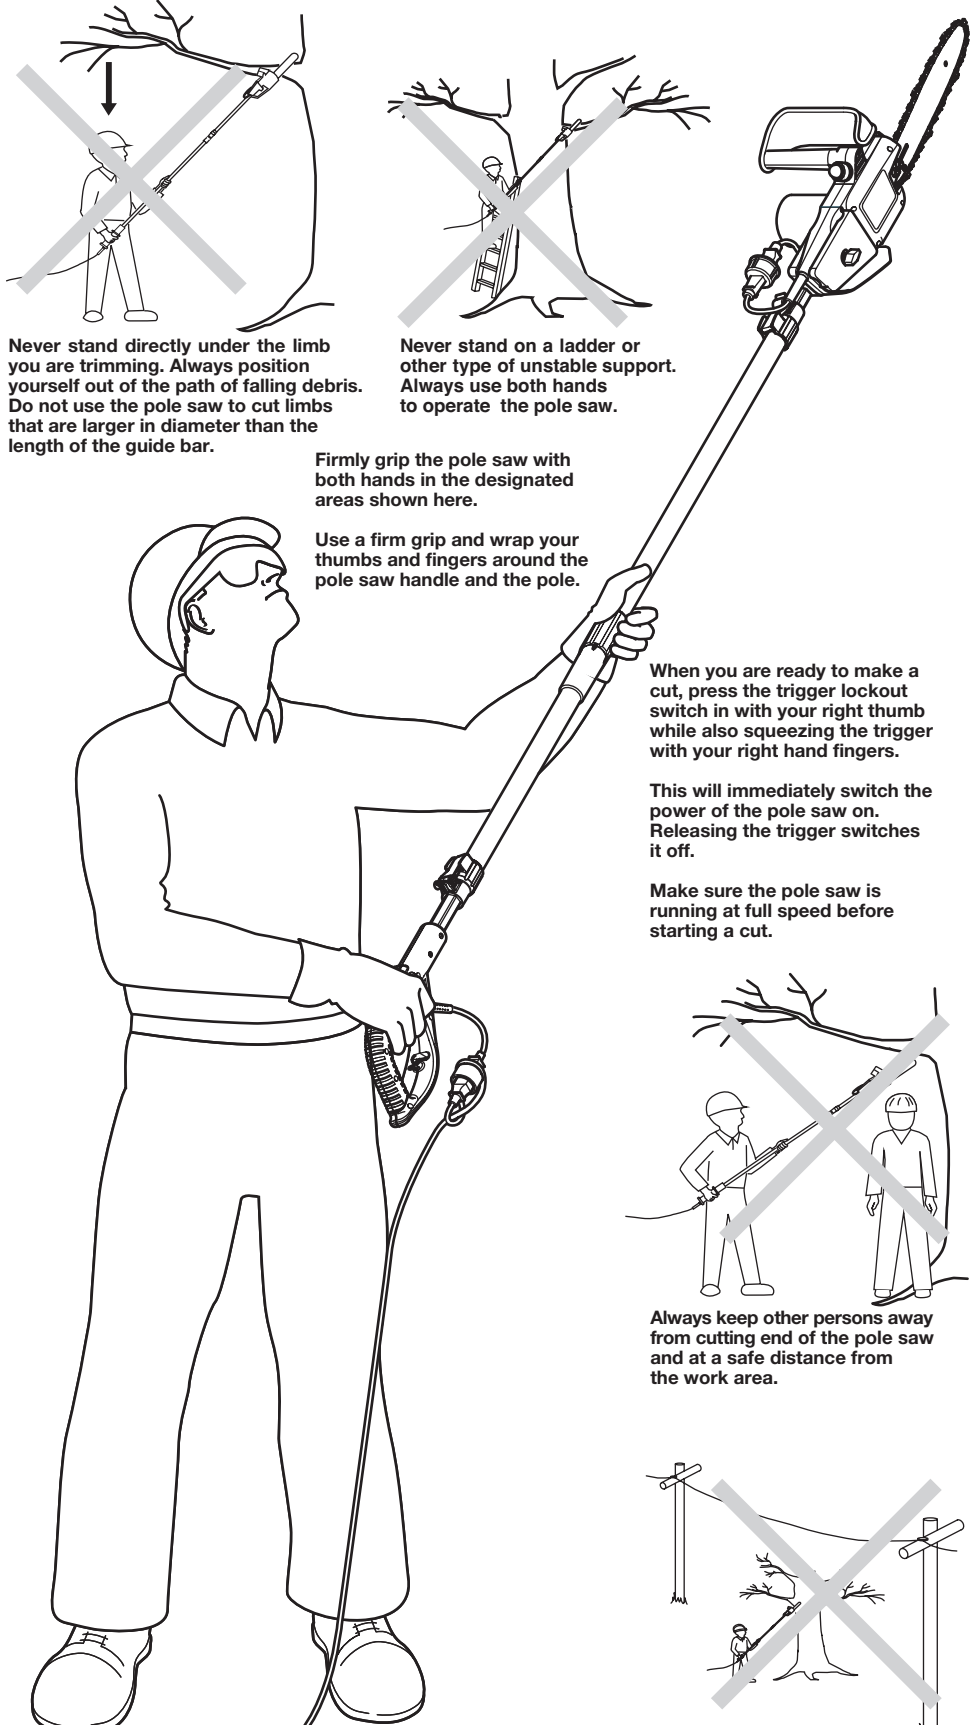

Fig. 17 How to Use the Pole Saw to Safely Prune a Tree Limb
- Firmly grip the pole saw with both hands in the designated areas shown in Fig. 17. Use a firm grip and wrap your thumbs and fingers around the pole saw handle and the pole.
- When you are ready to make a cut, press the trigger lockout switch in with your right thumb while also squeezing the trigger with your right hand fingers (Fig. 17). This will immediately switch the power of the pole saw on. Releasing the trigger switches it off.
- When starting a cut, place the moving pole saw against the tree limb (Fig. 17). Hold the pole saw firmly in place while cutting through the limb. This will help to prevent a possible bouncing or skating, sideways movement of the log.